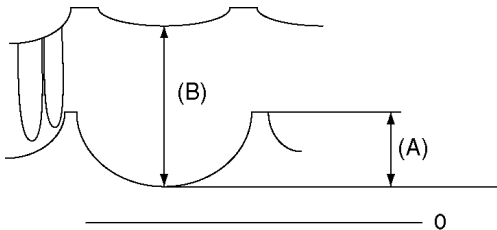

Fig. 3
9. Adjust V-PARA (Service mode1) so that waveform (A) is $360V \pm 20V$. (Fig. 3)
10. Adjust H-PARA (Service mode1) so that waveform (B) is $560V + 40V, -60V$. (Fig. 3)
13. Adjust V-PARA (Service model) so that waveform (A) is $260V \pm 20V$. (Fig. 3)
14. Adjust H-PARA (Service model) so that waveform (B) is $560V + 40V, -60V$. (Fig. 3)